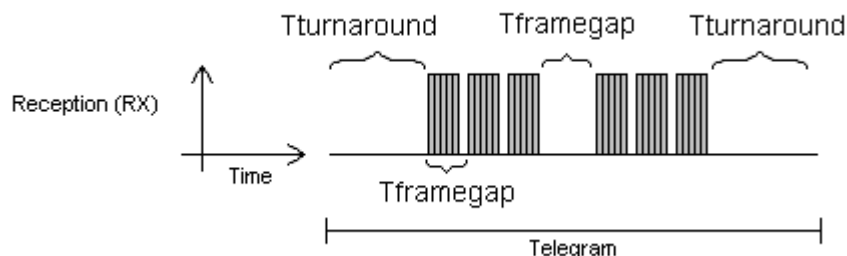

Figure 2.3: BACnet data reception
Reception (RX): The maximum time between bytes (T_{framegap}) is of 20-bit times, and the minimum time between frames ($T_{\text{turnaround}}$) after the last byte stop bit is of 40-bit times, according to the Figure 2.3.